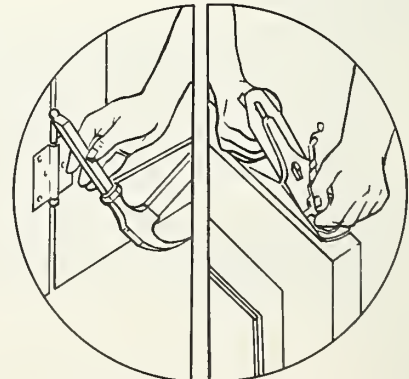

Fig. 7
3. If the door or frame is badly out of shape, you may have to remove the door and plane down the part that drags. (Fig. 7)